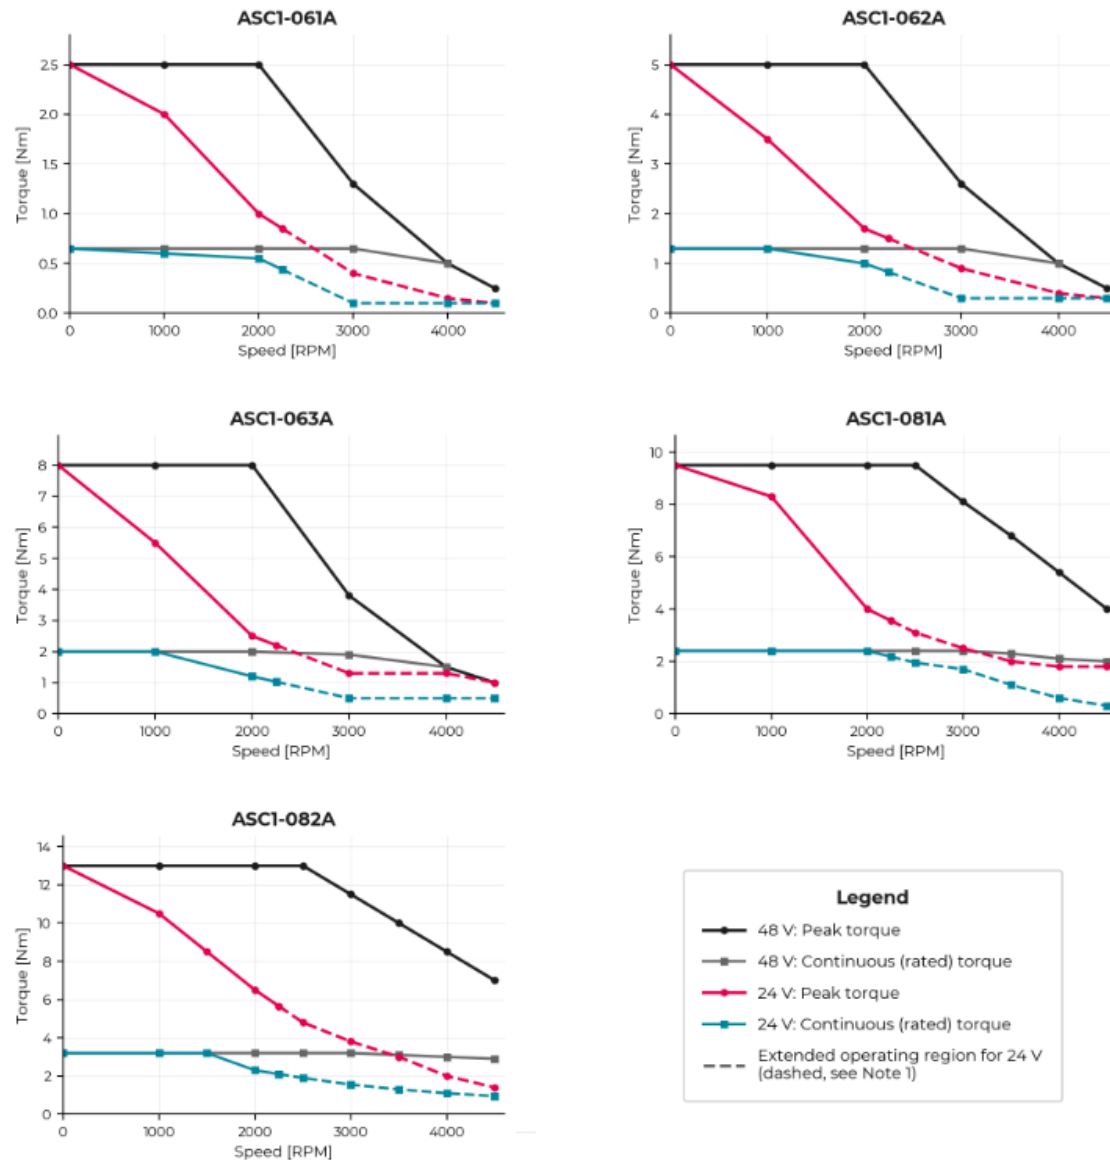

Figure 1 - Torque vs. speed at 48 V and 24 V DC bus voltage for all five ACTILINK-S Integro variants; line coding per legend
Figure 1 compares the 24 V torque-speed behavior against the 48 V datasheet reference for all five ACTILINK-S variants. Solid lines indicate the normal operating range while dashed lines mark the extended operating region at 24 V, discussed in Operating up to 4500 RPM on Lower Voltage DC Buses.
- Torque at these high speeds is significantly lower at 24 V than at 48 V. Refer to Figure 1.